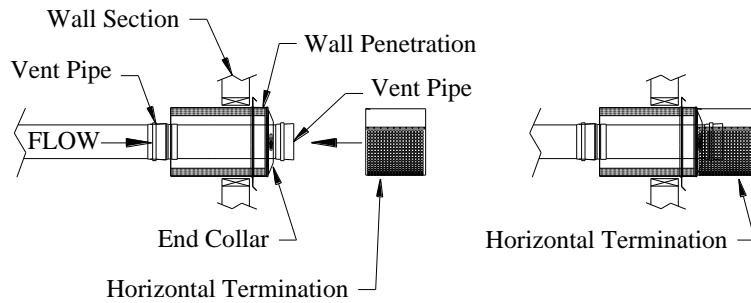

Fig 14. (Wall Penetration & Horizontal Termination)
4. The Termination may be easily removed for inspection of the venting system (See Fig 14).